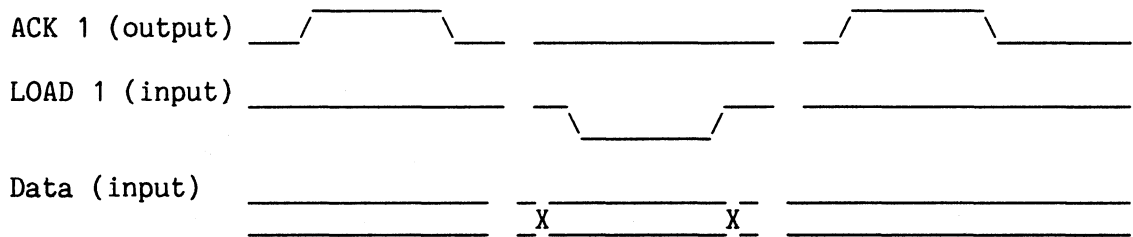

Figure 168-3. Handshake Type One Timing Diagram
Counter U34, flip-flops U20 (labeled F and G), and gates U12, U13, U15, U16, and U18 comprise the type one handshake circuit. Refer to Figure 168-3. Immediately following power on, the circuit is in its initial state with both flip-flops reset. One clock pulse after the counter output (P) transitions to a logical one, flip-flop G sets, generating the leading edge of the ACK1 output pulse. Approximately 32 uS later, P returns to the logical zero state, then flop-flop F is set and the trailing edge of ACK1 is generated.